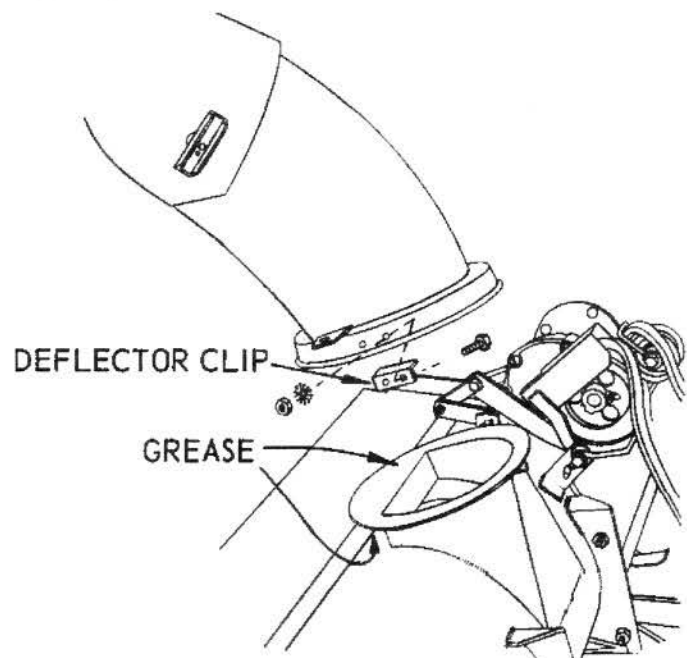

FIG 1
2. Refer to Fig. 1. Apply grease (pressure gun grease or equivalent) to upper and lower part of deflector flange on housing assembly as shown. Attach deflector assembly to housing assembly with 3 deflector clips six  $\frac{1}{4}$  x  $\frac{1}{2}$  hex bolts, lock washers and hex nuts as shown. Tighten nuts securely.